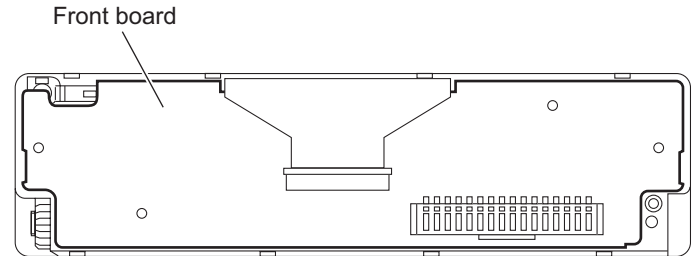

Fig.12
- (3) Take out the front board. (See Fig.12.)